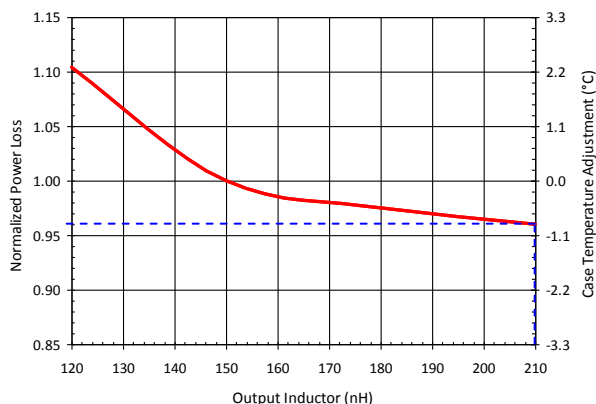

Figure 15: Power Loss vs. Output Inductor
- 6) Determine the inductance normalizing factor with  $L=210nH$ , which is 0.96 based on the dashed lines in Figure 15.
- 13) Determine the case temperature with  $L=210nH$ , which is  $-0.9^{\circ}$  based on the dashed lines in Figure 15.